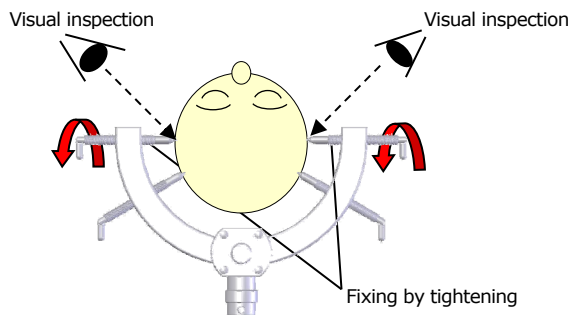

Fig.3
3. Finally turn the head pins 1/4 to 1/2 rotation which were provisionally fixed to tighten them further (Figure 3). Excessive tightening by the head pin may result in making cracks, depression, or penetration in the skull or laceration of the skin. Be sure to tighten the head pin with utmost care